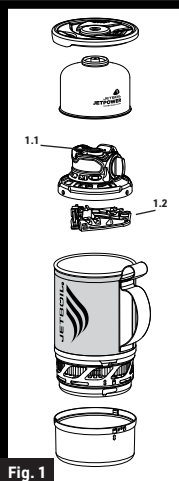

Fig. 1
1. Remove packed contents from pot (Fig 1).
4. Refer to Fig 1 for packing contents into pot.